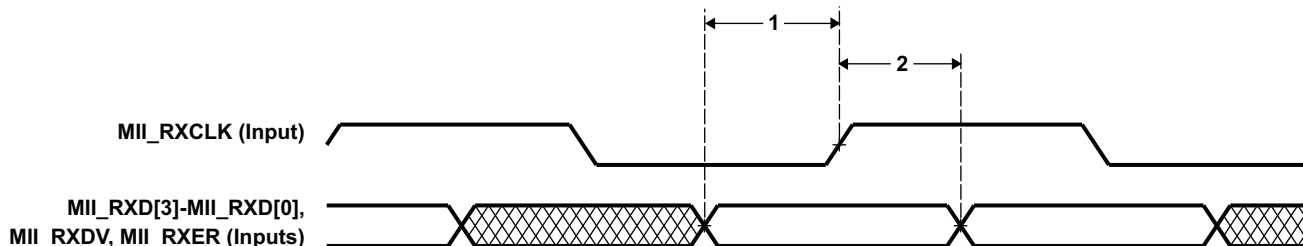

**Figure 6-46. MII\_TXCLK Timing (EMAC - Transmit)**
**Table 6-99. Timing Requirements for MII\_TXCLK (see Figure 6-46)**